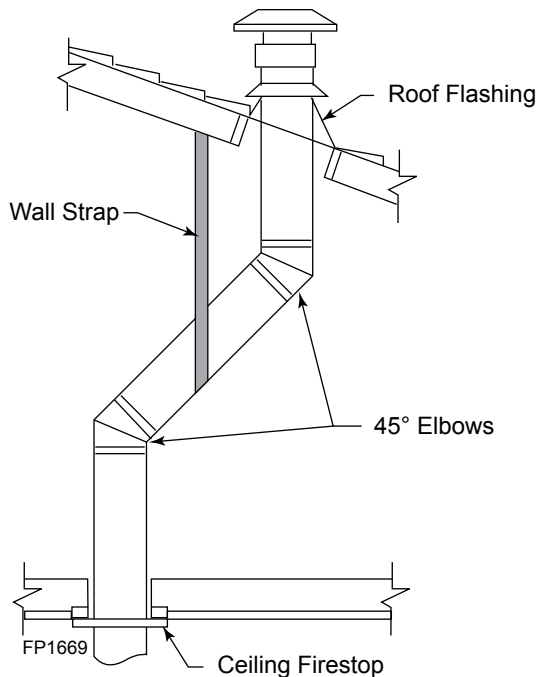

Figure 22 - Offset with Wall Strap and 45° Elbows
1. Determine the route your vertical venting will take. If ceiling joist, roof rafters or other framing will obstruct the venting system, consider an offset. Refer to Figure 22 to avoid cutting load bearing members.